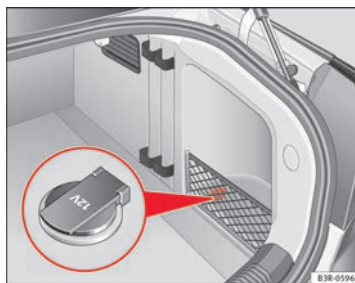

Fig. 125 Detailed view of the side trim in the luggage compartment: 12 volt socket
- Lift the power socket cover ⇒ fig. 125.